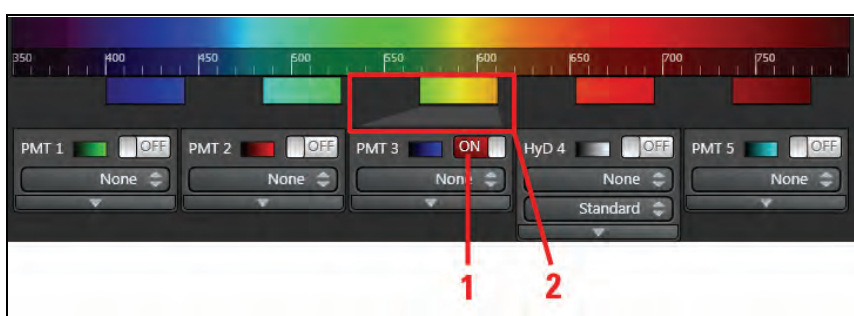

Figure 112: Selecting detector and wavelength range in Beam Path Settings
2. In **Beam Path Settings**, enable the desired photomultiplier by clicking the corresponding button (Figure 112, item 1).
3. When a detector is activated, it can be recognized by a shadow with a slider below the electromagnetic spectrum. This slider adjusts the wavelength range detected by the detector (Figure 112, item 2).